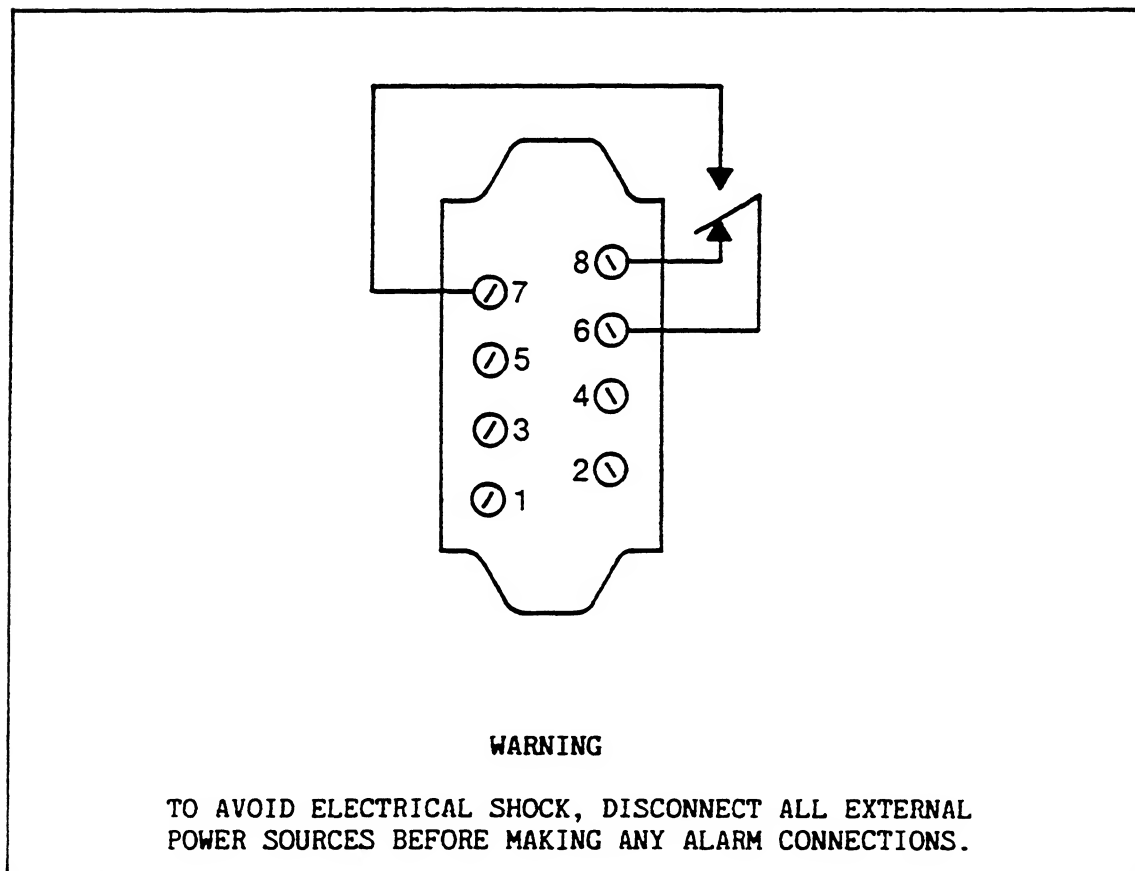

Figure 9A-10. Alarm Annunciator Test
3. Wire an Alarm Acknowledgement Switch (single pole, double throw) to the Alarm Annunciator Terminal Strip as shown in Figure 9A-10.